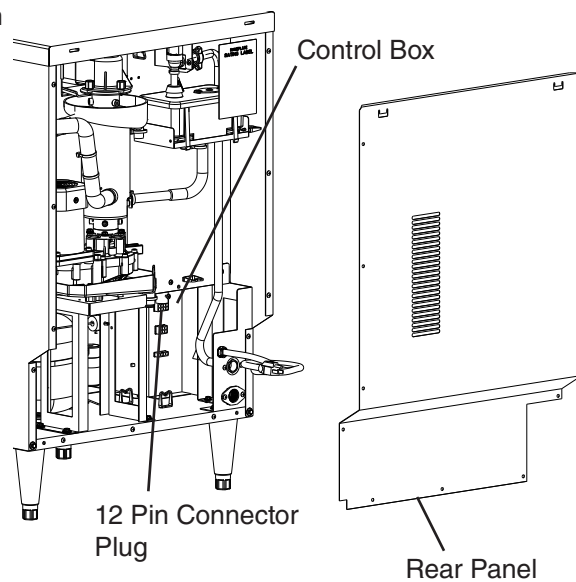

Fig. 3
- 3) Remove the rear cover. Next remove the 12 pin connector plug from the control box. See Fig. 3.